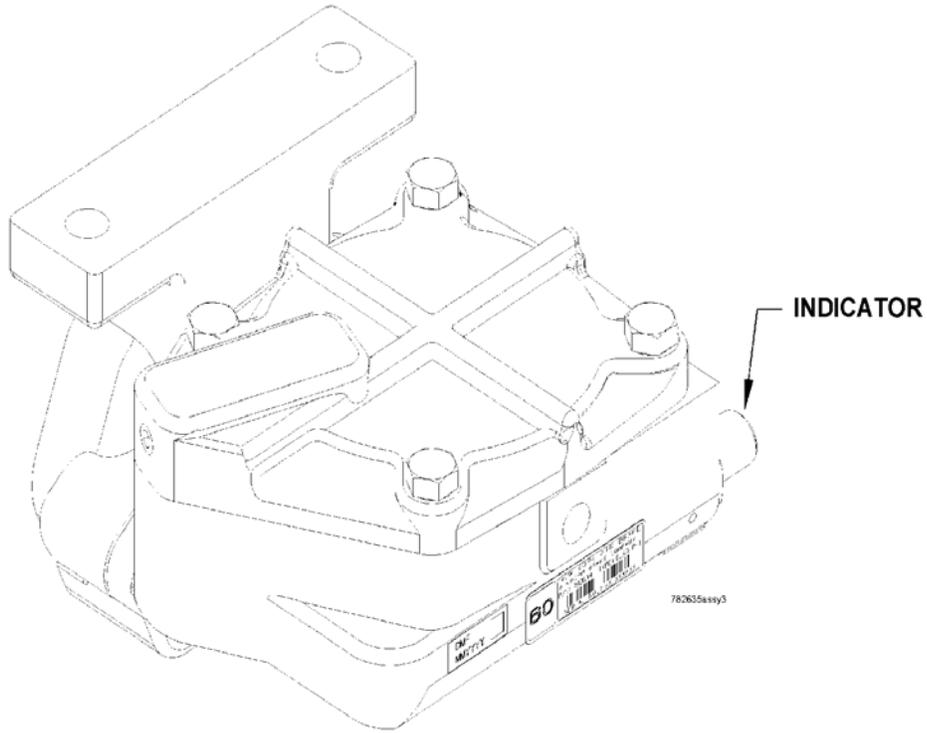

Figure 39: P-1 Load Proportional Valve
**5.16 P-1 LOAD PROPORTIONAL VALVE, Fig 39**